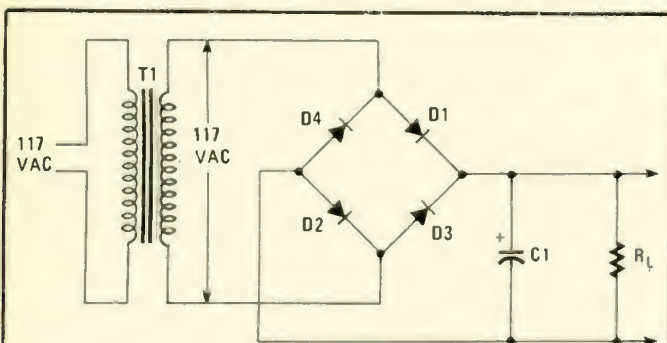

FIG. 5—CAPACITOR C1 provides ripple voltage filtering so that R_L always has a DC voltage across it. Refer to text for discussion on PIV rating of C1.
The pulsating DC produced by a bridge rectifier is not usable in most electronic circuits. To produce nearly pure DC from the rectifier output a filter must be used. The simplest form of filter is a single capacitor in parallel across the load resistor. See Fig. 5. The operation of filters will be discussed shortly, but included here, because the filter capacitor affects rectifier ratings which is our real topic. For now, let's be content with the fact that the filter capacitor (C1) is charged to the peak of the AC waveform. That means that the bridge rectifier's output voltage under no load is $1.414 \times \text{volts}_{rms}$. It comes to 165.4-volts DC from a line isolation transformer T1 delivering 117-volts AC.
Some designers fail to recognize the true reverse-bias voltage in a filtered power supply. On one half-cycle, the diode will be forward-biased and current flows. On that half-cycle, the filter capacitor (C1 in Fig. 5) charges to peak positive voltage (i.e. $1.414 \times rms$). That voltage charge remains on C1. On the next half-cycle, the AC voltage reverse-biases the rectifier to the peak negative voltage (again, $1.414 \times rms$). That potential is added to the capacitor voltage to make the actual PIV twice normal peak voltage (i.e. $2 \times 1.414 rms = 2.83 rms$; or approximately 320.8 PIV). It would be wise to use diodes in the bridge circuit rated at a standard value of 400 PIV.
The simplest form of filter is a single capacitor connected in parallel with the rectifier output and the load. Such a filter is called a *brute-force* filter. An example is shown in Fig. 5.
Normally, we will have a ripple-factor percentage in mind as a design goal, and the load resistance is set by other requirements. We will want to rearrange Eqs. (6) and (7) to find the minimum value of capacitance (C1 in Fig. 5) required to do the job. Also, we will want our result in microfarads (μF), not Farads. To accomplish those goals we can rewrite Eqs. (6) and (7) into a final form:
Equations (8) and (9) are valid for power supplies using brute force filtering as diagrammed in Fig. 5 and operating from 60 Hz AC power lines. On 50-Hz power systems, increase the value of C1 by approximately 20 percent.
The filtering action has the effect of raising the average output voltage. The voltage produced by Fig. 5 will be as follows: